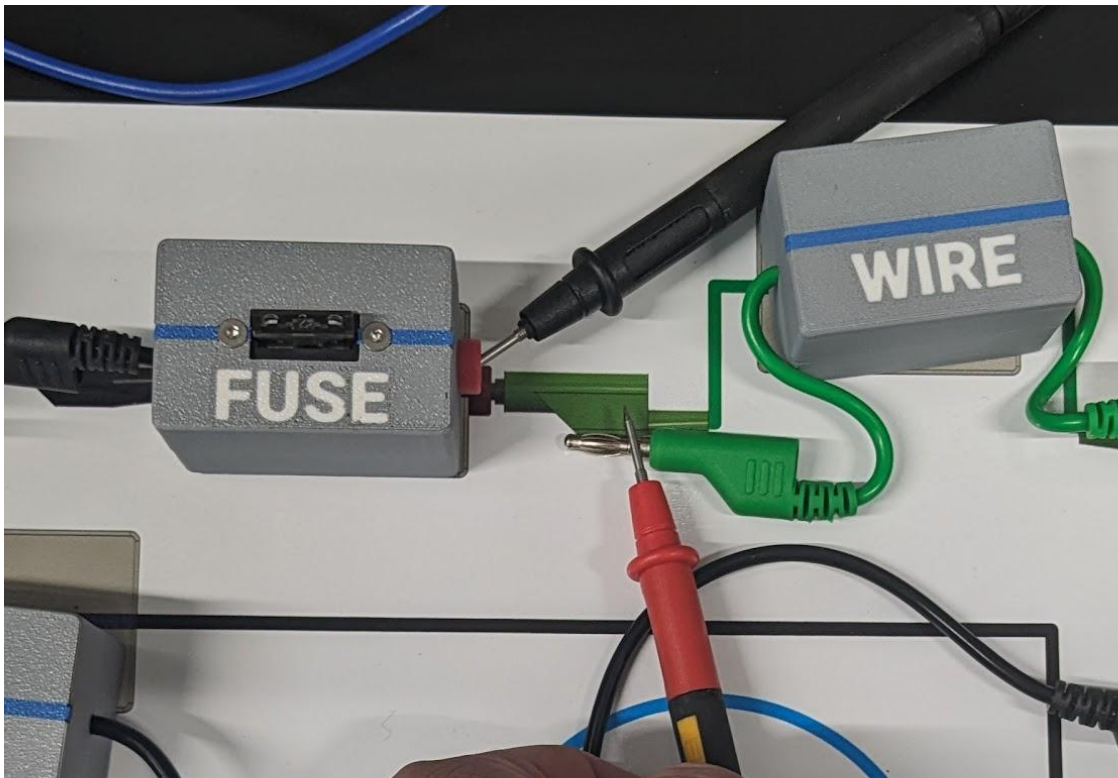

Figure 8: Measuring Current in a circuit
7. Review figure 8 below before proceeding